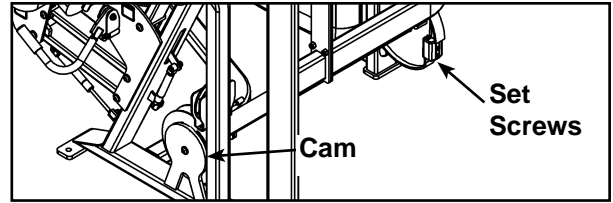

Figure 1
C. Rotate cam and disconnect weight stack belt from cam (by loosening the two set screws on the belt clamp with a 7/32" Allenwrench). See Figure 1.
O. Connect the weight stack belt to the belt clamp of cam (removed in step 4C). See Figure 1.